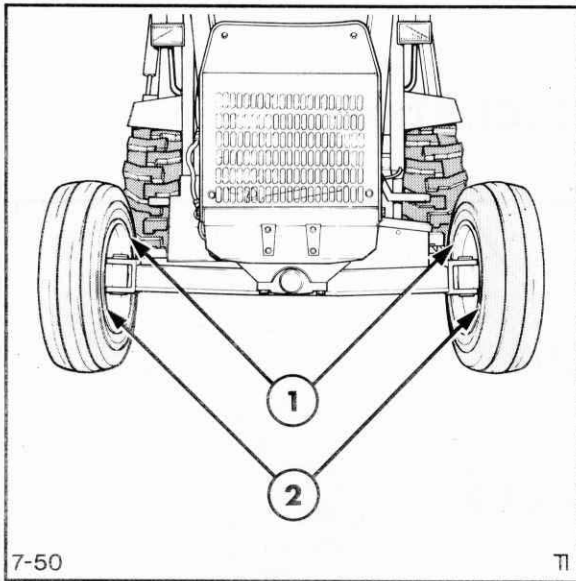

Figure 7-50
3. Measure and note the distance between the two marks, dimension A. Refer to Figure 7-50.